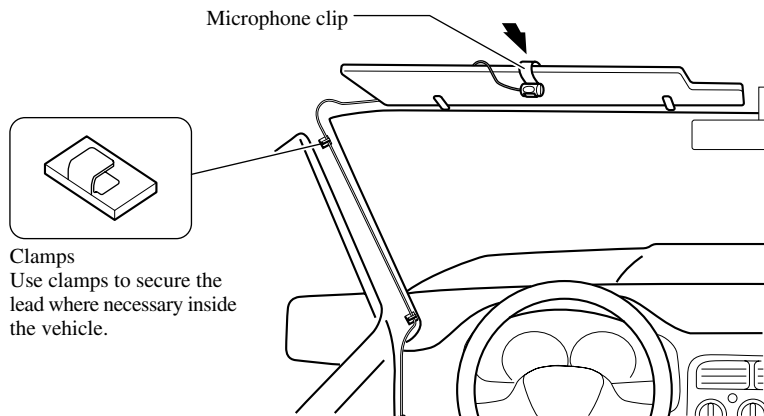

Fig. 17
2. Install the microphone clip on the sun visor. (Fig. 17)